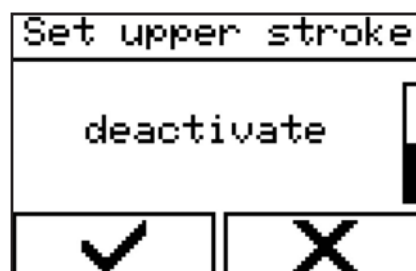

Figure 99 - Deactivating stroke limitation
3. Select 'Deactivate upper stroke limit' (Figure 99).